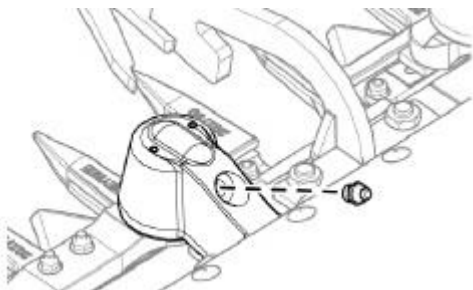

Figure 121
1. In order to replace either the left- or right-hand knife, you must first remove the feather plate from above the knife head bearings. Figure 121
2. Remove the grease zerk from the bearing. Figure 121